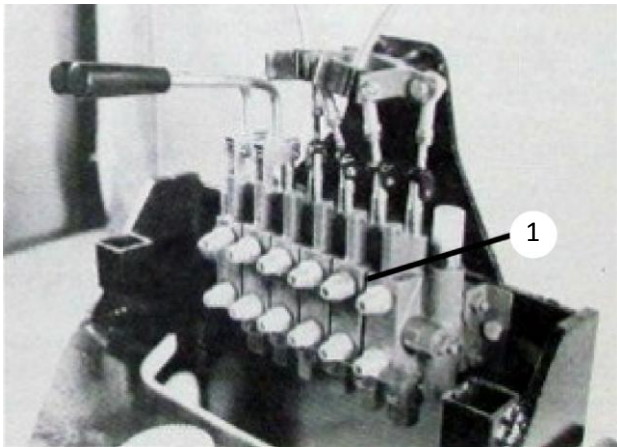
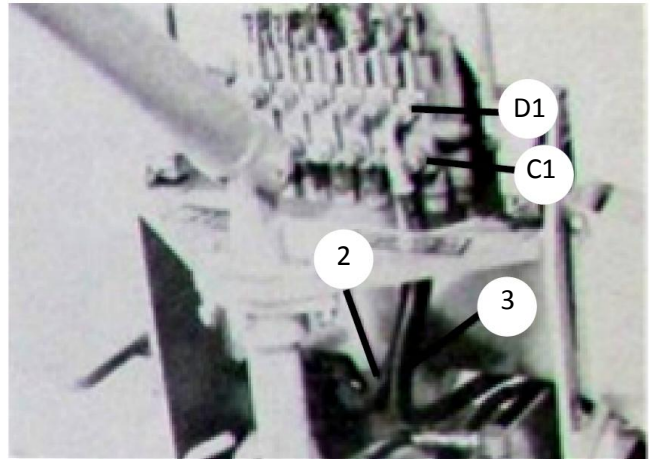
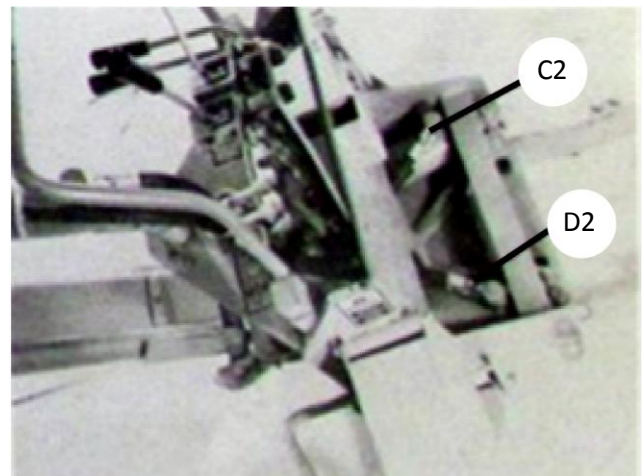

Fig. 2
Fig. 3
Fig. 4
- (1) Mount Control Valve (Item 1) to the inside front plate of the mainframe as oriented in Fig. 2. Secure with (2) each 3/8" x 1" machine bolts, lockwashers and hex nuts provided.
- (2) Complete installation of the stabilizer handles by aligning the hole in the right stabilizer handle with the hole in the control valve spool. Insert a 5/32" x 13/16" pin and secure the pin with 1/4" clip.
- (3) Repeat step two (2) for left stabilizer handle.
- (4) Connect end of "Left Swing" hose (Item 2) equipped with short 90° fitting to lower port (Point C1) on far right hand section of control valve as shown in Fig. 3. Route through opening in the lower inside front plate on left side of main frame and connect to the top front port (Point C2) on the left swing cylinder as shown in Fig. 4.
- (5) Connect end of "Right Swing" hose (Item 3) equipped with long 90° fitting to upper port (Point D1) on far right hand section of control valve as shown in Fig. 2. Route through opening in the lower inside front plate on right side of mainframe and connect to the top front port (Point D2) of the right swing cylinder as shown in Fig. 4.